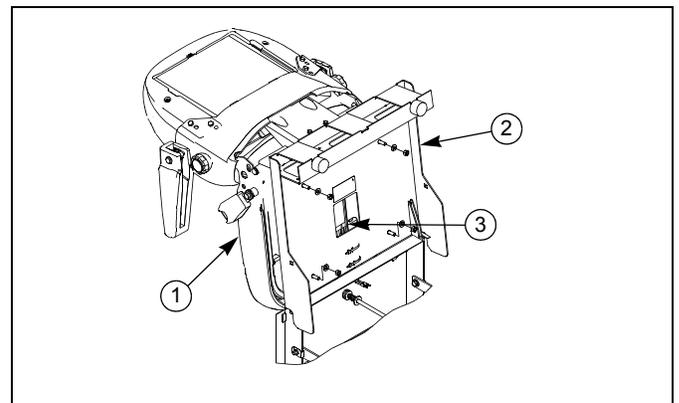

Figure 2-10
4. Release the seat pan latch, pivot the seat ② and seat pan up ① and over. Disconnect the mower harness from the seat switch ③. Unbolt the seat assembly from the seat pan and remove it. Figure 2-10